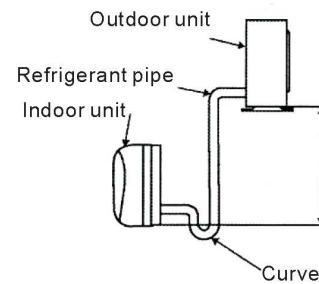

Fig.16
- If the outdoor unit is higher than the indoor unit, make sure that a curve is made in the refrigerant pipe which is lower than the bottom edge of the indoor unit. See Fig.16.